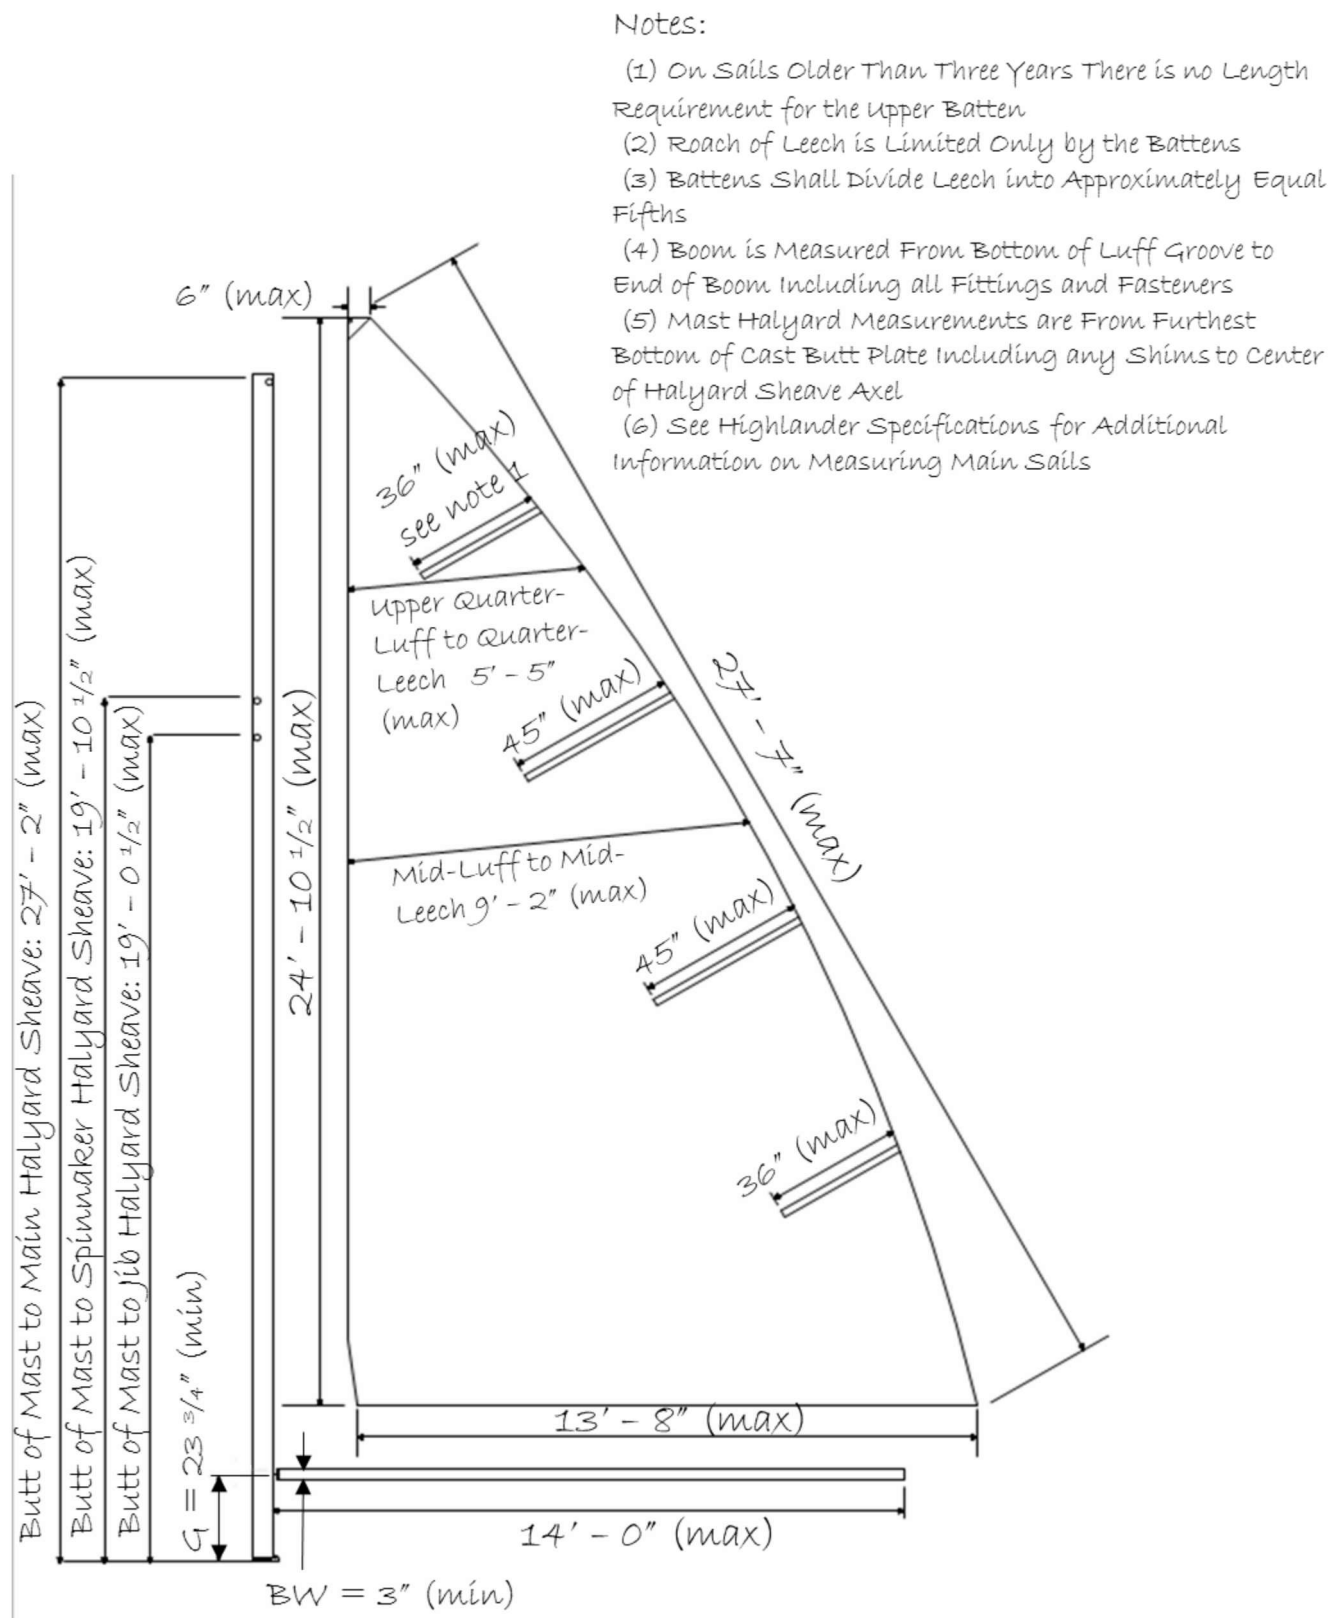

Figure 4 Mast, Mainsail and Boom Measurements
- b. A separate spinnaker halyard shall be used, located either inside or external to the mast. It shall be located as shown in Figure 4. The center of attachment of an external halyard must not exceed the maximum dimension and also must lie within the angle formed by the leading edge of the mast and a line that intersects the point of maximum allowable height and the bow at Station 0, excluding hardware.
- iii. All measurements shall be made with no tension is applied to the sail, but the cloth shall be smoothed out except that the luff and foot of the main and jib and the sides and foot of the spinnaker shall be measured under a five (5) pound tension.
- iii. There are no minimum measurements. Maximum measurements are shown in Figure 4.
- iv. Up to four battens as shown in Figure 4 are permitted.